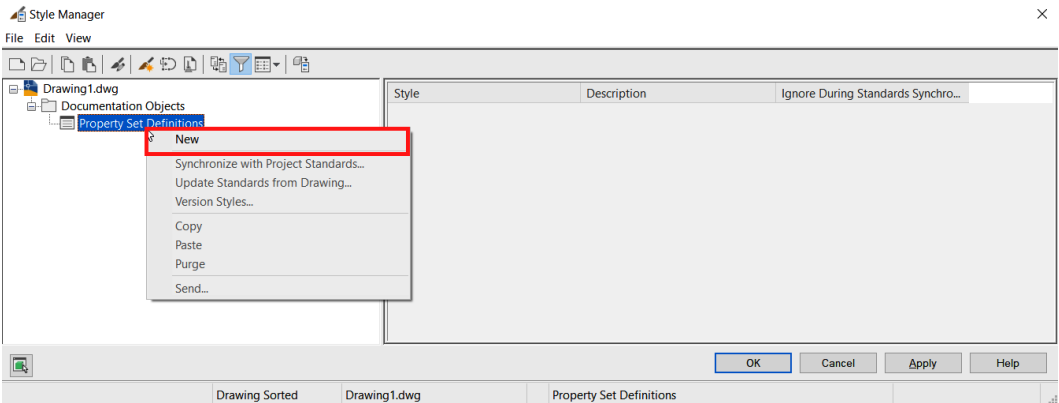

Figure 10.3 – Create new property set definition
2. After the **Style Manager** dialog box appears, we'll right-click on the **Property Set Definitions** option listed and select **New**, as shown in *Figure 10.3*.